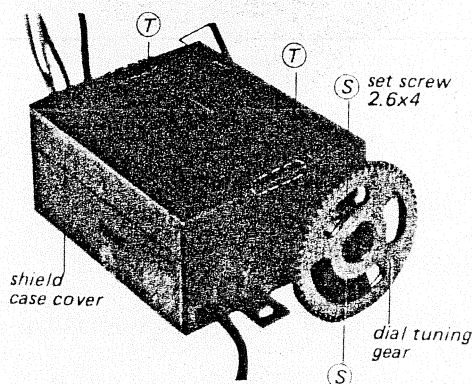

Fig. 2-17
2. Remove the dial-tuning gear by loosening the two set screws (2.6×4) marked $\textcircled{S}$ in Fig. 2-17.
3. Unsolder the two portions of the cover marked $\textcircled{T}$ in Fig. 2-17 and remove the shield case cover in the direction shown.